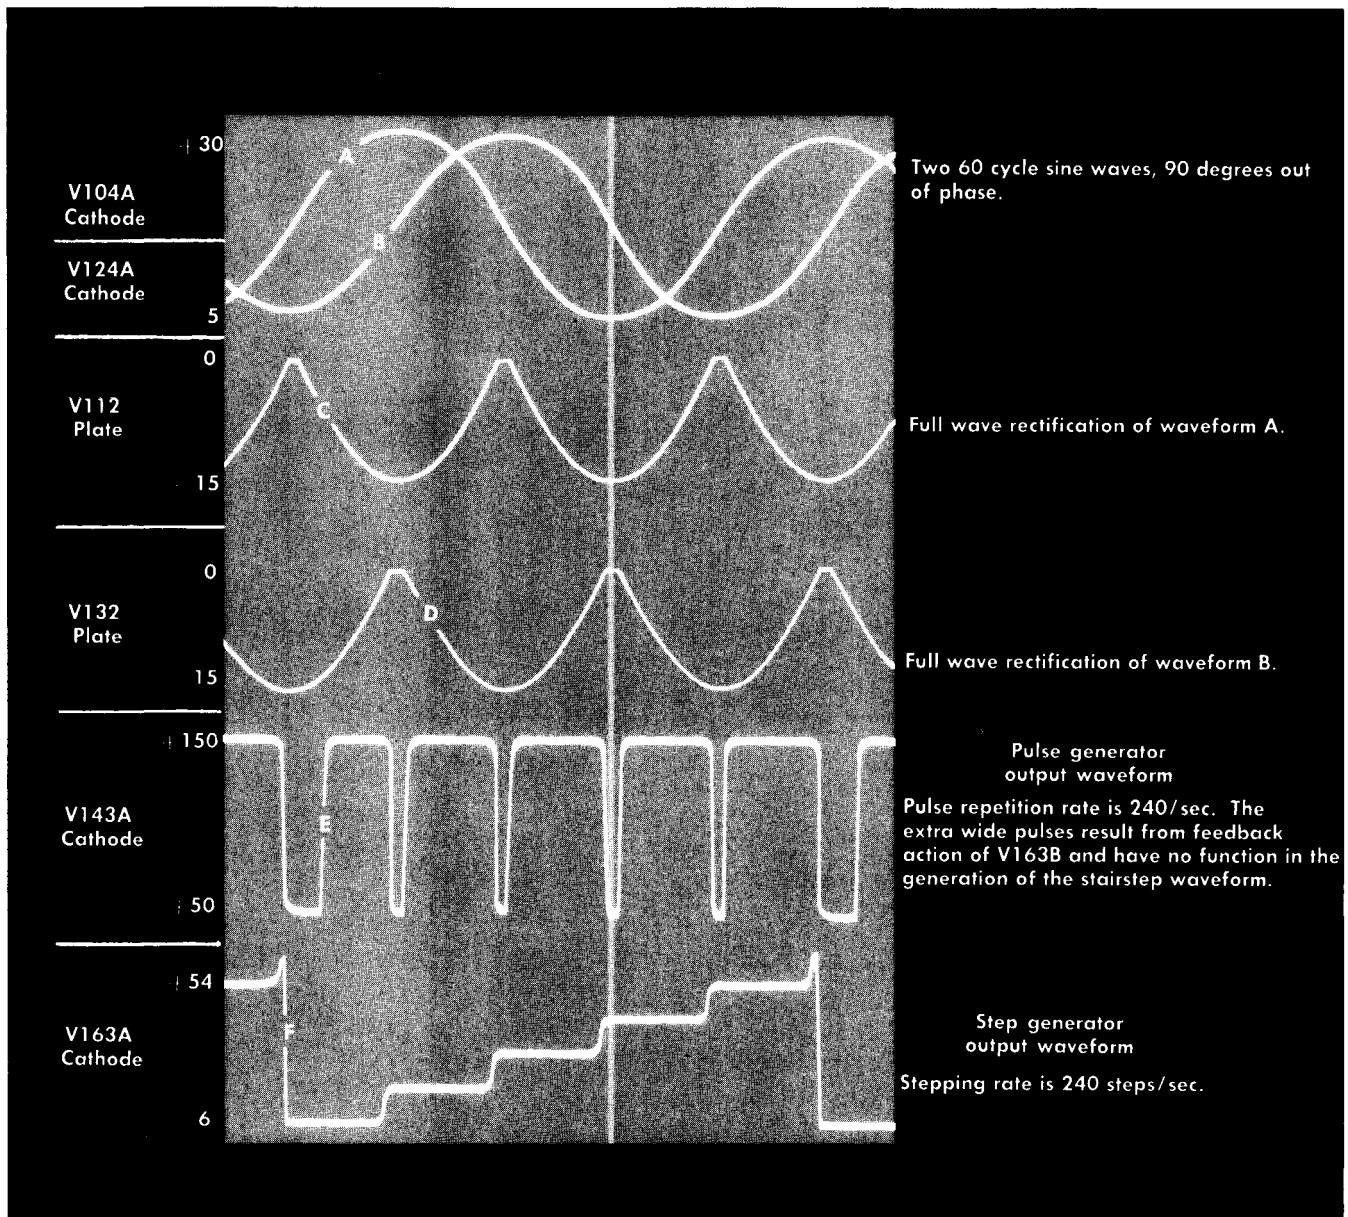

Fig. 3-6. Time relationships between the Step Generator output waveform at key points in the pulse generator section.
The circuit diagram of the step Generator shows the split-load phase inverters, V104A and V124A, driven by sine waves at the power-line frequency. The single angle between these signals is adjusted to 90 degrees by the RC networks R102/C102 and R122/C122. The resulting waveforms, A and B, are shown in Fig. 3-6; the voltages are approximate. The output of each phase inverter is rectified to produce a pulsating dc waveform (C) (D) at a frequency of 120 cps. The rectified outputs of the phase inverters are fed into two pentodes (V104B and V124B) having a common plate-